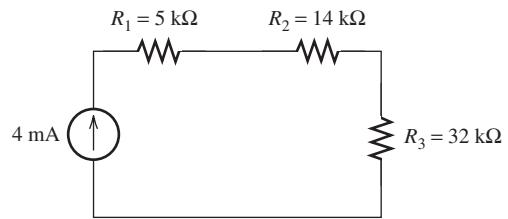

FIGURE P2.53 Circuit for Problem 2.53.
- 2.53 (H)** Find the power P_1 , P_2 , and P_3 dissipated by all resistors in the circuit shown in Figure P2.53.